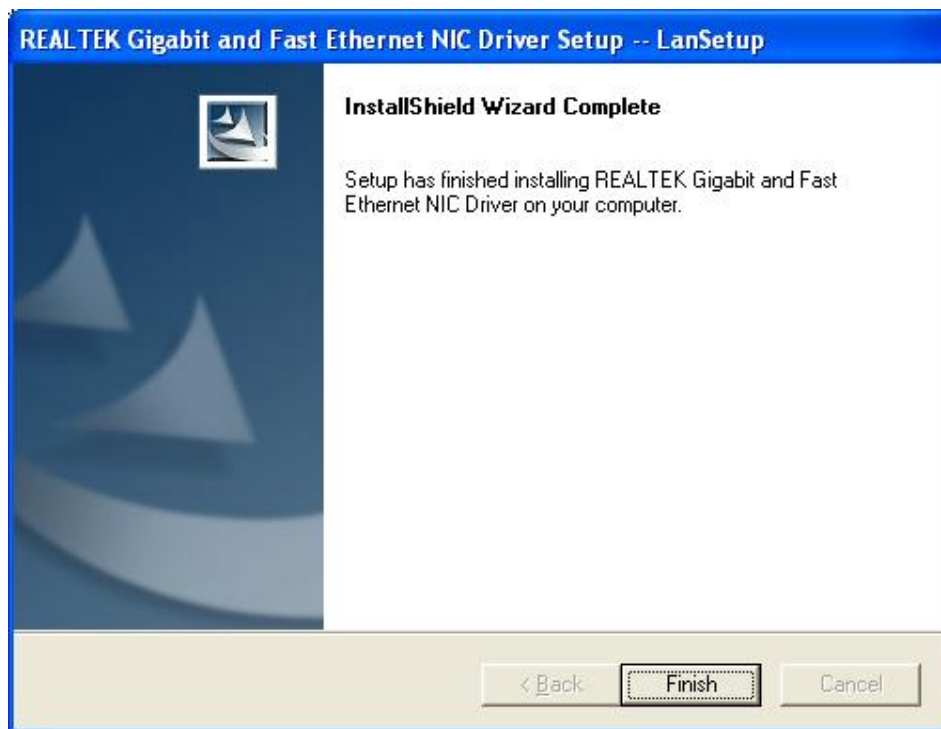

Figure 6-22: LAN Driver Installation Complete
Step 5: To continue installing click “**Next.**” The driver is installed and a confirmation screen at the end of the installation appears. (See **Figure 6-22**)